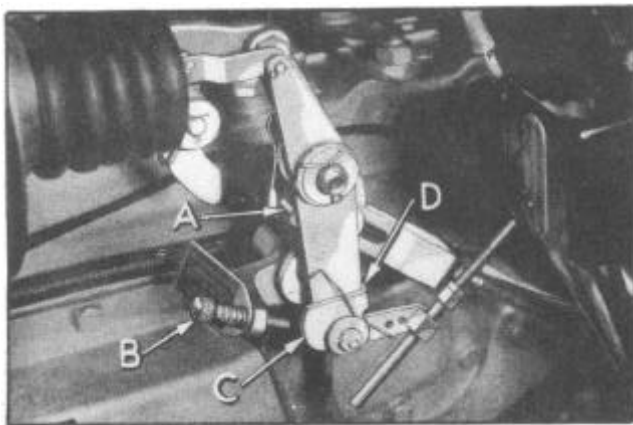

Figure 18--Finding Cushion Point
Hold the accelerator down until cam (C), Figure 18, just touches the stop screw (B) as in operation described under "Winding Cushion Point". This can be done by wedging the accelerator bell crank away from the toe board by inserting a drift, screwdriver or wood wedge behind the upper arm of the bell crank.